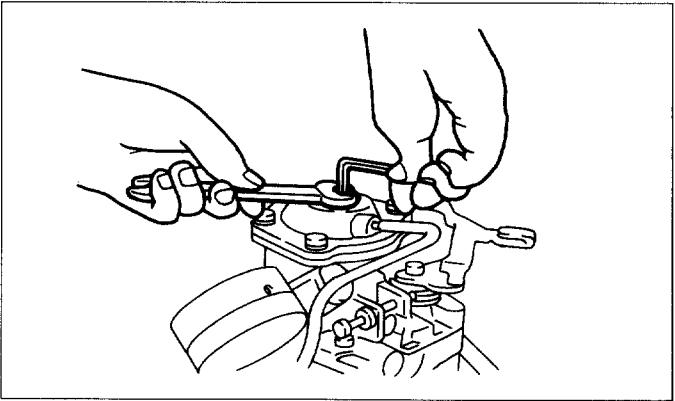

Fig.15-32 Adjusting the stop screw
(2) Carry out adjustment of the stop screw as shown in Fig.15-32.